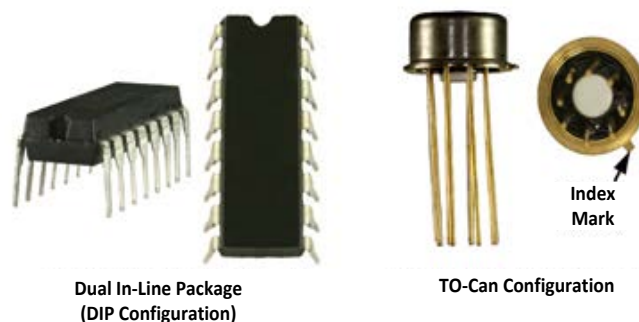

Figure 07-18 Integrated Circuits
Integrated Circuits (IC) are multifunction devices and have several leads, such as TO 5 packages (transistor outline cans) and DIPs (Figure 07-18).